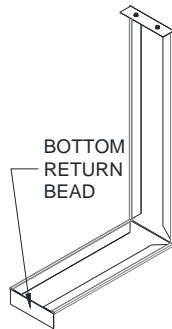

Figure 10.2 - Hood Splice
- Square hood sections do **not** overlap at the hood support. They butt against each other and a hood splice cover is provided to cover the joint, see **Figure 10.2**.